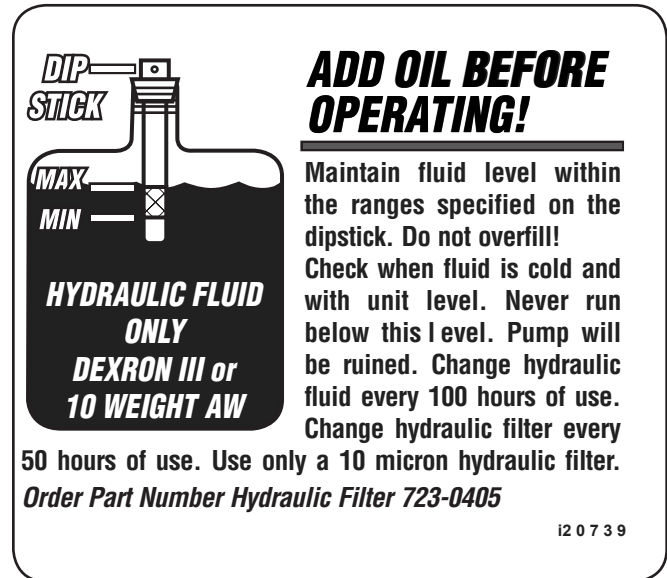

Figure 3-12
9. Refill the reservoir within range marked on the dipstick. See Fig. 3-12.